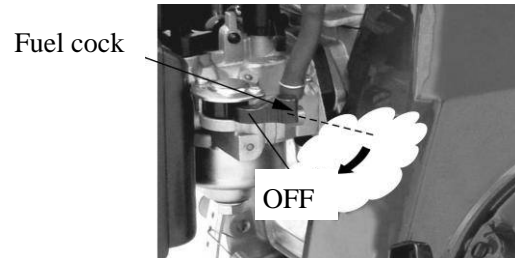

Fig.13
3. Set the fuel cock to the OFF position (Fig. 13).